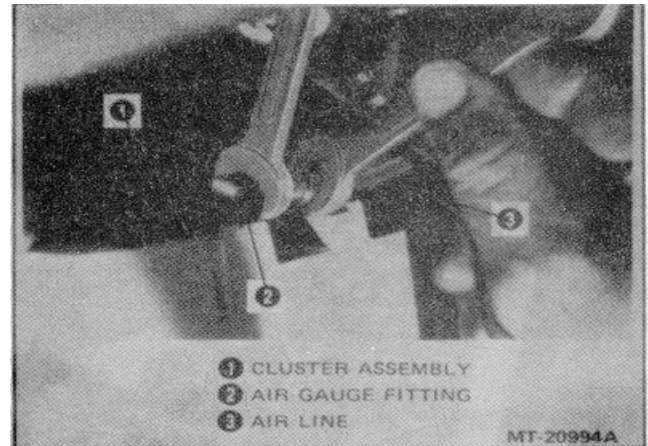

Figure 5-Removing Air or Vacuum Lines
5. Disconnect air or vacuum lines from fittings (Figure 5) on back of air or vacuum gauges. Two air pressure gauges are used on vehicles with air brakes. One vacuum gauge is used on vehicles with vacuum boosted hydraulic brakes.
4. Mechanical type air gauges (Figure 9) are front serviceable after removing air line fittings from rear of cluster (Figure 5).